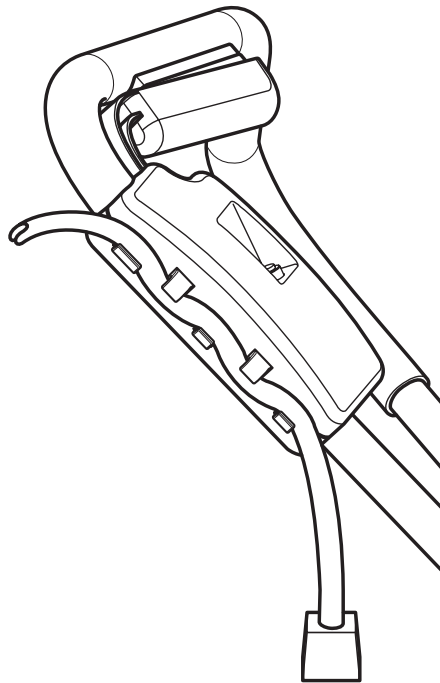

Figure 9 - Securing Extension Cord to Tiller
The switch housing has an extension cord hitch made from a series of alternating hooks (see Figure 9). This feature can be used to secure the receptacle end of the extension cord to the tiller handle to prevent accidental disconnection from the power cord. A belt clip is also included to help manage the cord by keeping it at the users side and away from the tiller tines.
1. Start at approximately 6 inches from receptacle end of extension cord and weave the cord between the hooks on the switch housing as shown in Figure 9, so that the receptacle is hanging below the switch housing.